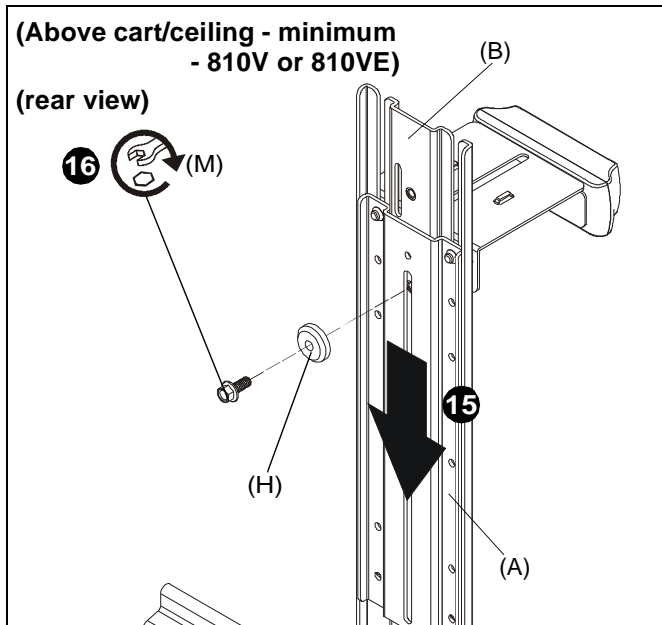
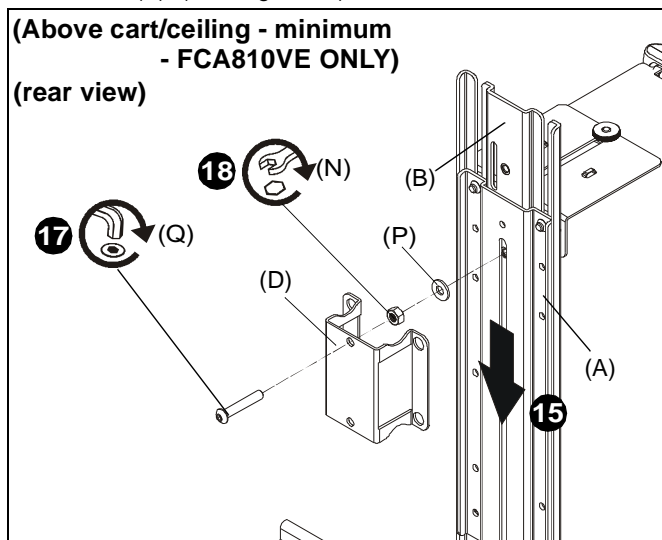

Figure 31
Figure 32
15. (For **minimum extension**) Slide upright bracket (A) behind main bracket (B). (See Figure 31) or (See Figure 32)
16. (For **minimum extension - 810V or VE**) Use 1/4-20 x 5/8" hex head flange bolt (M) and center washer (H) to secure upright bracket (A) to main bracket (B). (See Figure 31)
17. (For **minimum extension - 810VE only**) Use 1/4-20 x 1 1/2" button head cap screw (Q), 1/4-20 hex nut (N) and large washer (P) to secure extender box holder (D) and upright bracket (A) to main bracket (B). (See Figure 32)
18. (For **minimum extension - 810VE only**) Tighten 1/4-20 hex nut (N) to fully secure upright bracket (A) to main bracket (B). (See Figure 32)